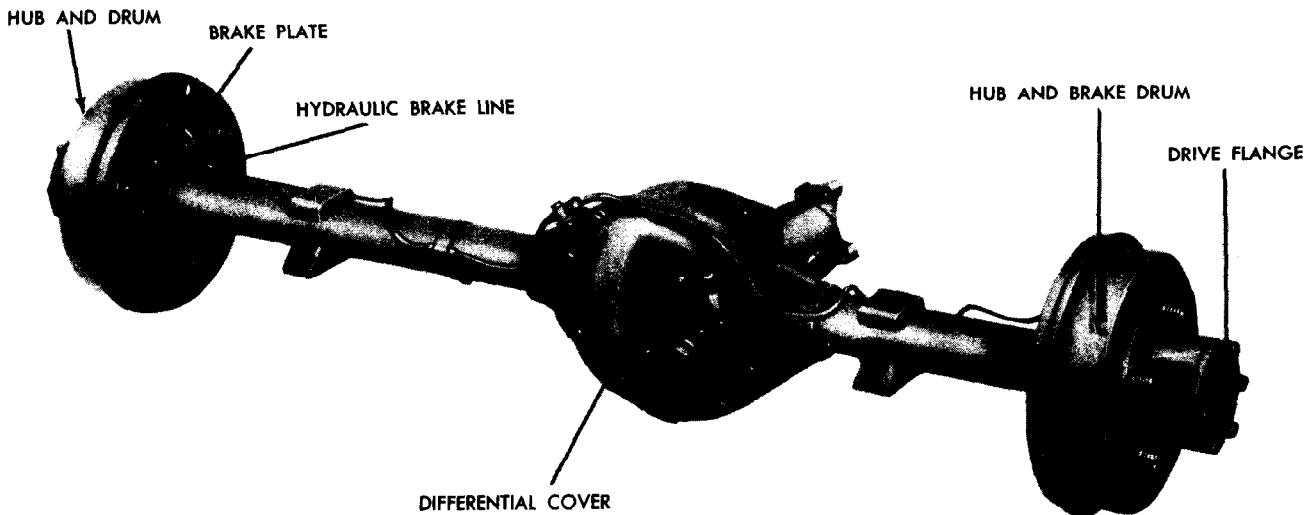

Figure 78 — Rear Axle Assembly
a. **Description** (fig. 78). The rear axle is the full-floating type, designed so that the axle shafts can be removed without disturbing the wheels. The differential drive is of the hypoid type. The differential parts are identical and are interchangeable with the front axle.
e. **Remove Differential Assembly.** Remove the 10 cap screws that secure the differential cover to the housing (fig. 78). Remove the differential cover. Remove the 4 cap screws from the 2 differential bearing caps (fig. 47), and remove the caps. Remove the differential assembly from the housing, using a pry bar if necessary. Reinstall the bearing caps in the housing, noting the markings (fig. 47) to assure their being installed in their correct location.
l. **Install Differential Cover** (fig. 78). Place a new gasket and the differential cover in place on the axle housing. Install the ten cap screws that secure the cover to the housing.